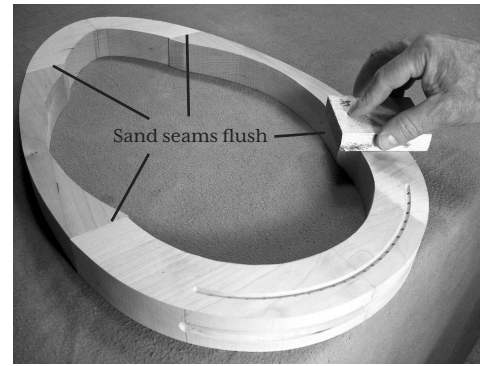

FIG. 2
- ___2. Once the frame is dry, remove the tape and check the glue seams to make sure the wood surfaces are level and smooth, especially where the soundboard and back will be glued. Sand these surfaces to remove any glue blobs and irregularities. (fig. 2)